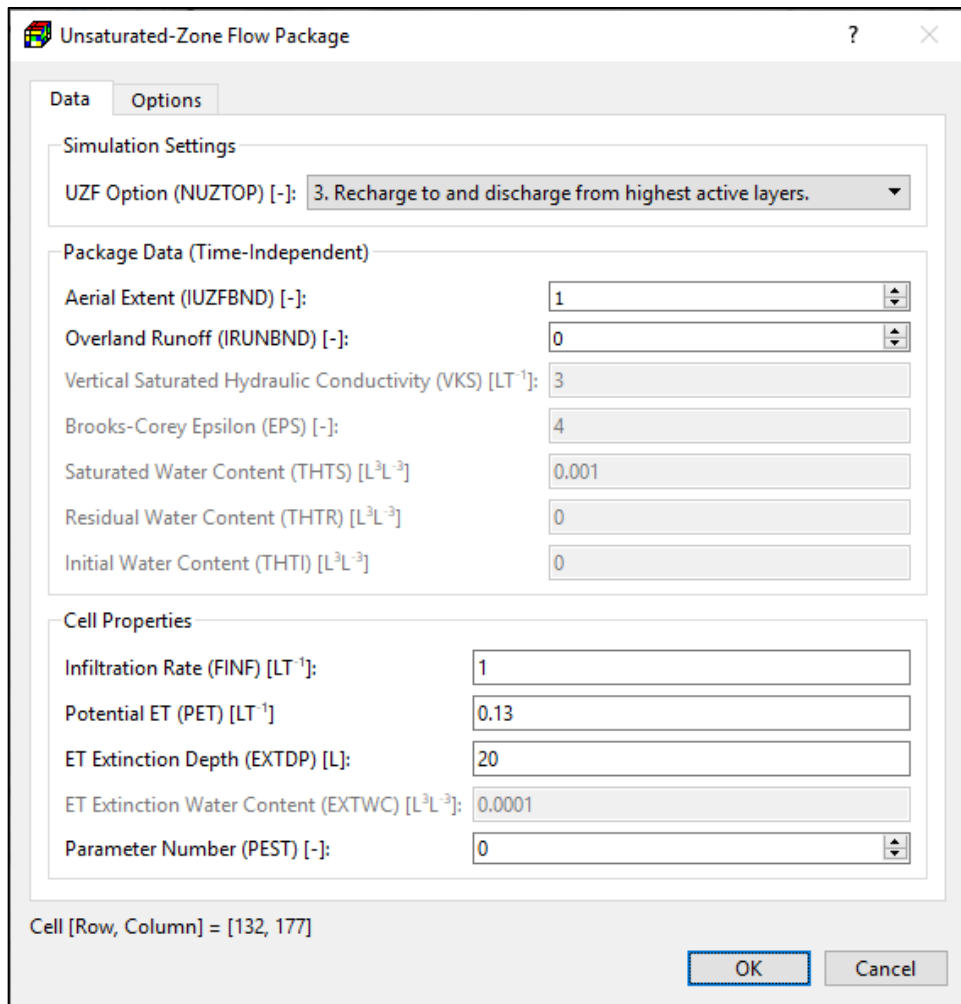

Figure 92. The Unsaturated-Zone Flow Package dialog box
1. All input methods: Figure 92 shows the dialog box for specifying cell, vertex, or polygon properties.